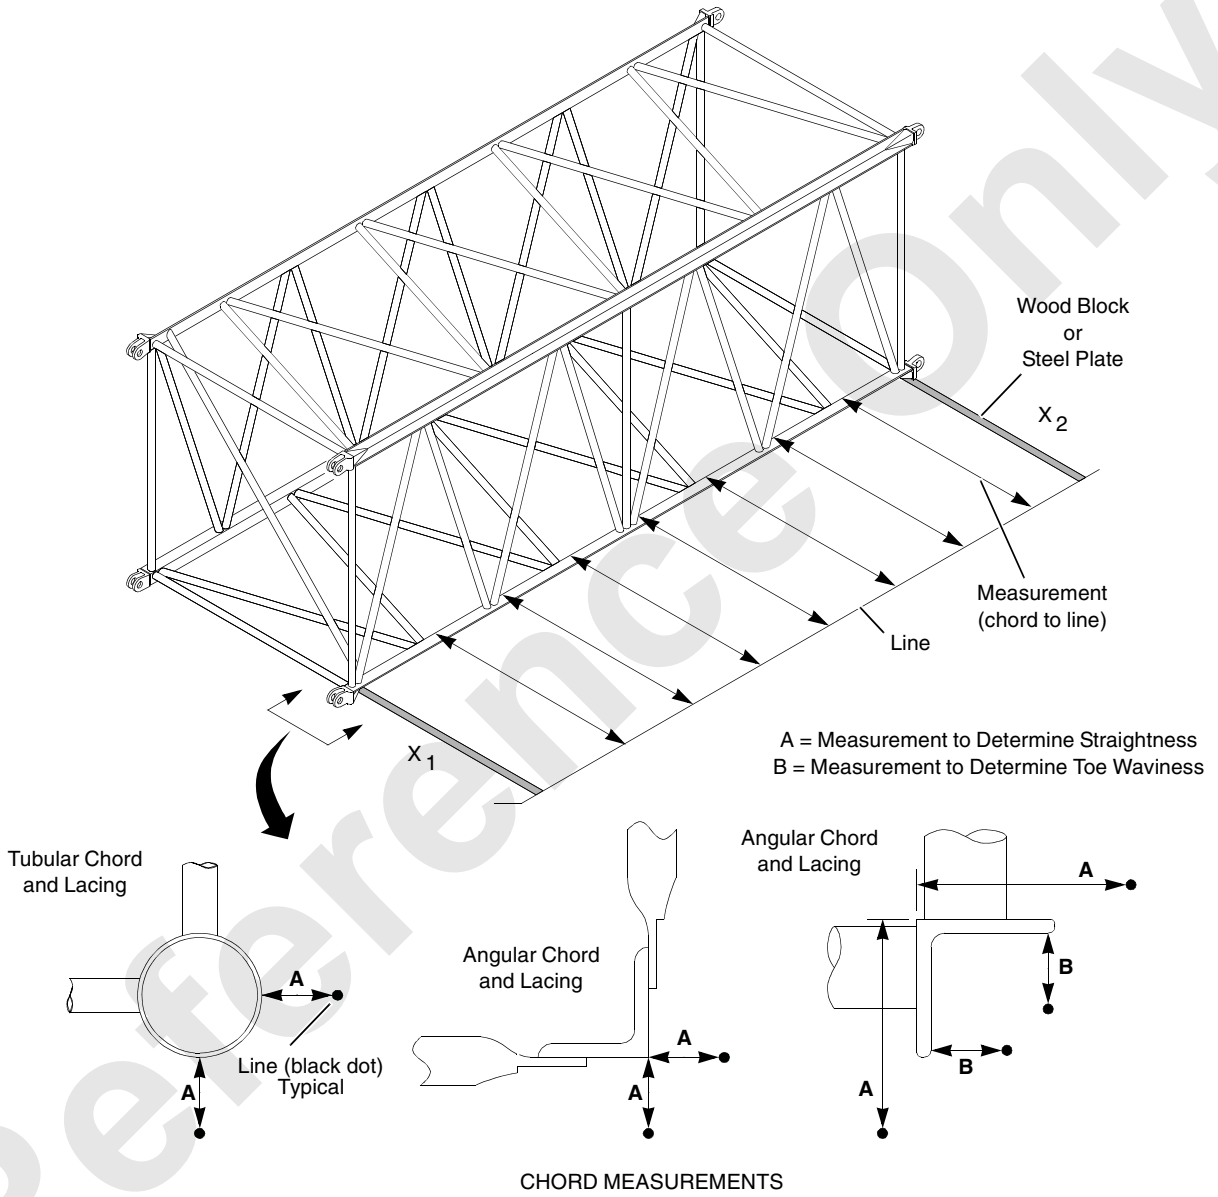

FIGURE 4-14
Refer to Figure 4-14.
5. Measure the distance from the chord (on either side of lacing intersection) to the line as shown in Figure 4-14.